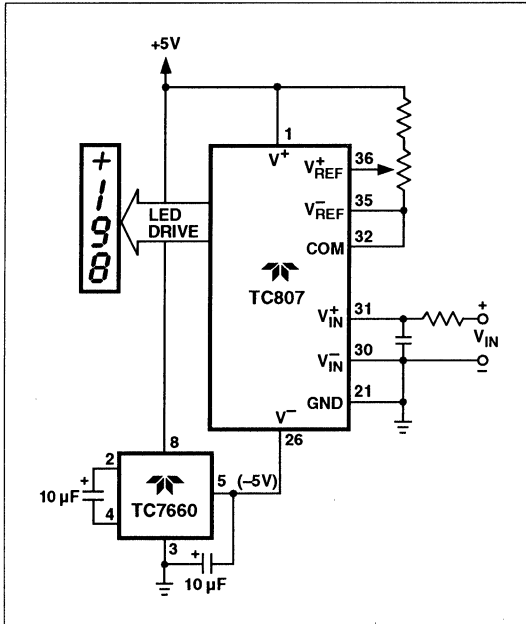

Figure 7. Negative Power Supply Generation With TC7660
- (1) The input signal can be referenced to the center of the common-mode range of the converter.
- (2) The signal is less than $\pm 1.5V$.
- (3) An external reference is used.
- (4) The TC7660 DC-to-DC converter may also be used to generate $-5V$ from +5V (Figure 7).